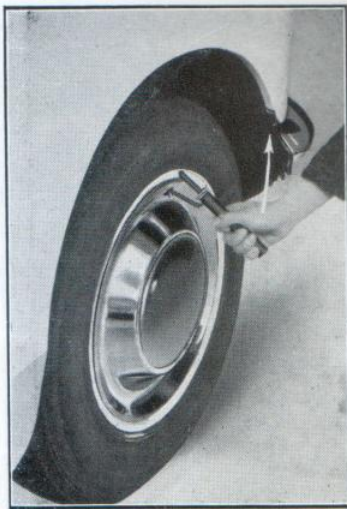

Figure 15
- Remove the hub cap with the special tool (fig. 15).